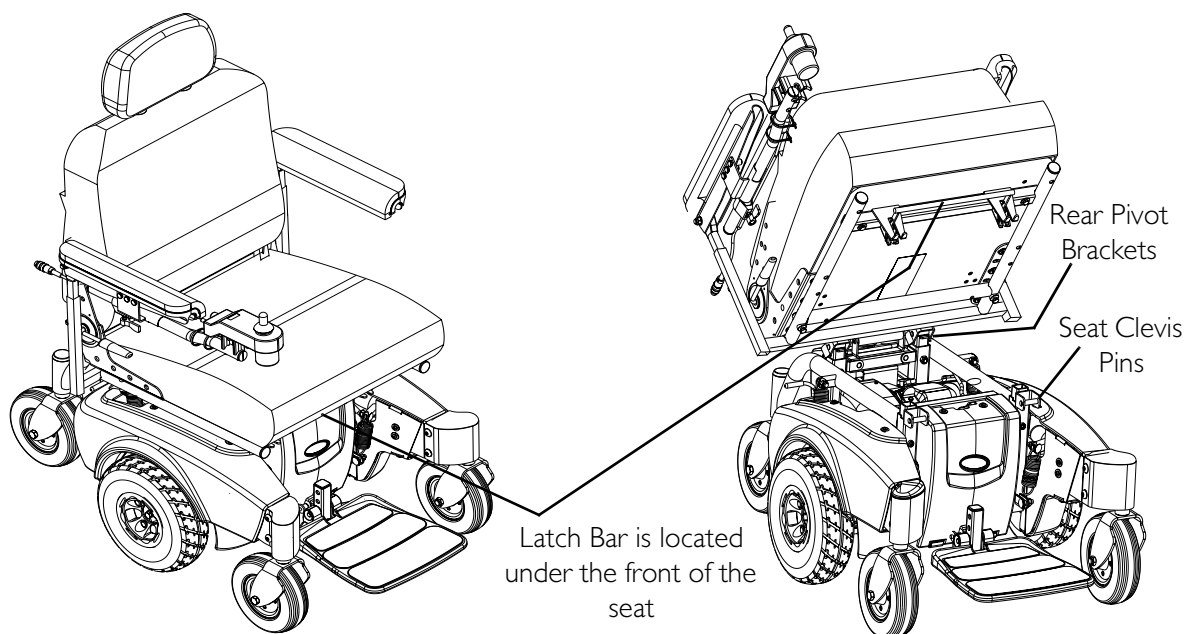

FIGURE 13.4 Removing/Installing the Seat Assembly
NOTE: For this procedure, refer to FIGURE 13.4.
1. Position the seat in the rear pivot brackets as shown in FIGURE 13.4.